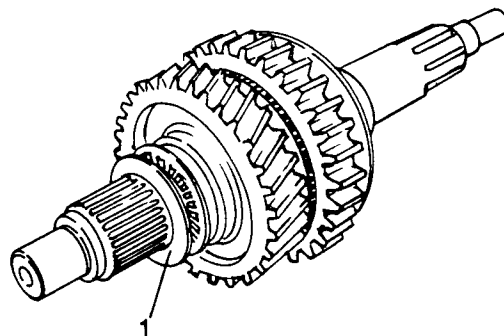

Fig H1.142
- (6) Refer to Fig H1.142. Remove the axial bearing and the two thrust washers (1).